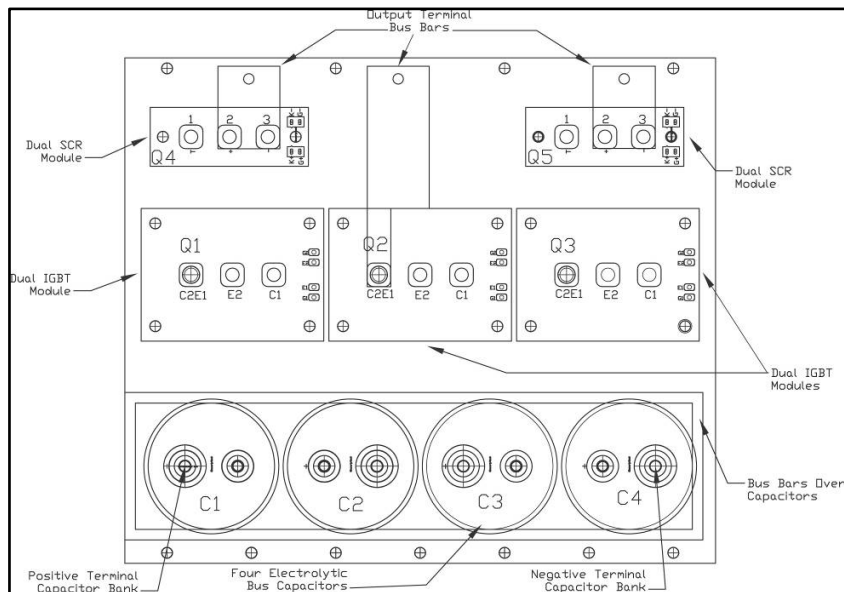

Figure 5.2 – 39, 45, 78, 90, 100, and 200 Amp Power Component Layout
- Measure resistance of power semiconductors using a multimeter set on the diode check setting, see **Figure 5.2**. Look for opens, ∞ , or dead short readings. With the red lead of your meter connected to the far right negative terminal of the capacitor bank, measure with the black lead of the meter to each of the three output terminals (bus bars), the reading should be approximately 0.35Ω . Reverse the meter leads and repeat measuring to each terminal. This time a low reading will be present which will continue to increase; this is an indication of a capacitor charging. Next connect the black meter lead to the “positive capacitor terminal” and again measure to each of the output terminals with the other lead; the reading should be approximately 0.35Ω . Reverse the meter leads and repeat measuring to each terminal. Again it will be a low reading which will continue to increase. If the readings are as described, in all likelihood the power semiconductors are good. If any readings are opens or dead shorts it will be an indication that something is bad in the power section. Do not reapply power if you are not sure the IGBT’s are good.